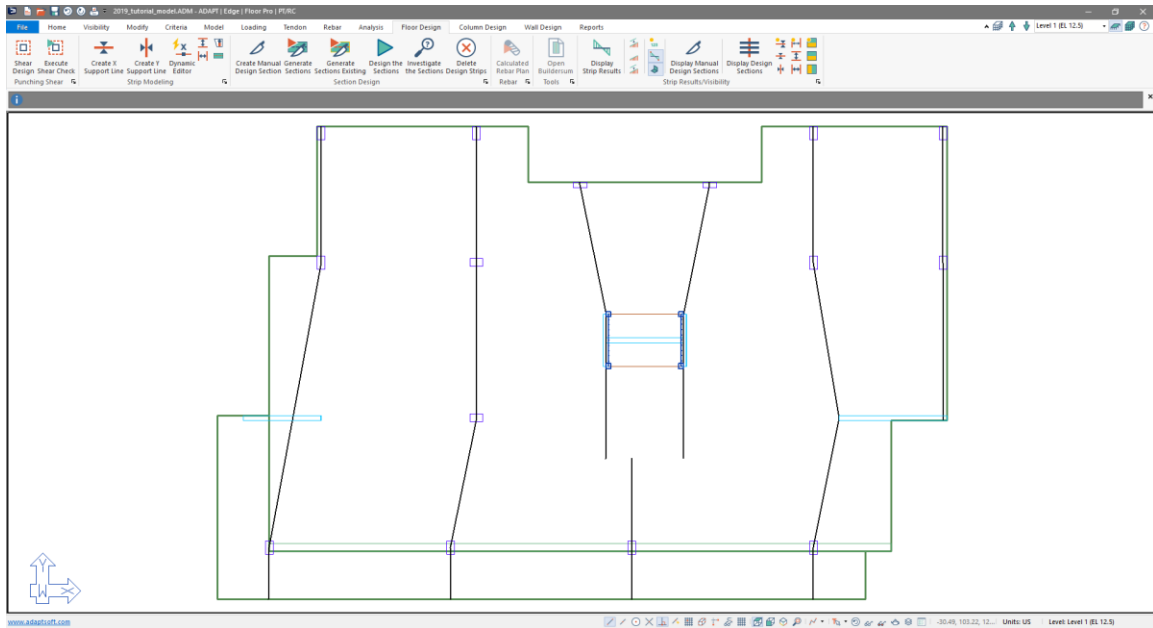

Figure 9-36
- Click on the *Top View*  icon in the **Bottom Quick Access Toolbar**. This will bring you to the view of the model shown in **FIGURE 9-36**.